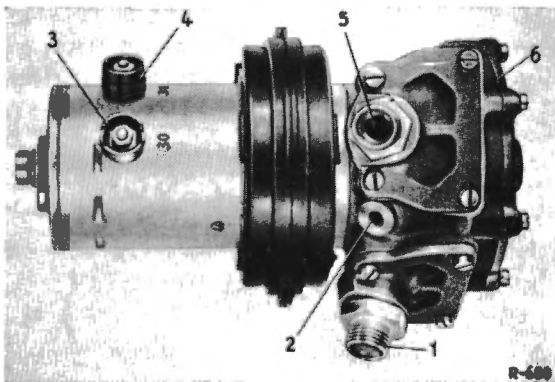

Fig. 00-15/7
If dirt is suspected between the pump cover or housing and the impeller unscrew the pump cover (6) and carefully remove the impeller (with a provisional copper wire hook) (Fig. 00-15/7. Mark the position of the pump cover before removal since it must be reinstalled in exactly the same position as before. Care should also be taken to ensure that the Woodruff key for the impeller is not lost.